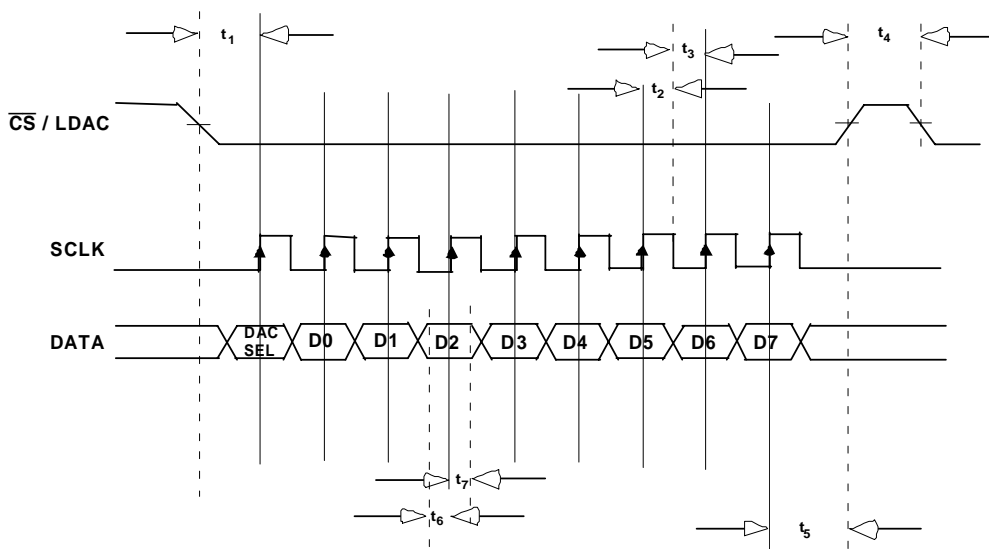

Figure 4. Serial Interface Waveforms
- See Timing Diagram in Figure 4.
This function is also shown in the waveforms in Figure 4 below. A falling edge on the CS/LDAC input initiates the data read into the shift register. The first bit of the datastream is the DAC Select Bit (DAC\_SEL) which determines which internal DAC the data will be written to. A '1' selects DAC 1 which sets the Amplitude of the output and a '0' selects DAC 2 which sets the Centre Voltage of the output. The individual data bits are then read in one by one on the DATA line. After the DAC\_SEL bit and the 8 data bits have been read there is a pause to ensure the shift register outputs are stable. Then a rising edge on the CS/LDAC input loads the 8 bits on the shift register outputs into the relevant DAC (and the DAC outputs will change accordingly). Note that if CS/LDAC goes high before all 8 data bits are read in then incorrect data will be loaded into the DACs. All bits on the DATA line are read in on each rising edge of the SCLK signal.